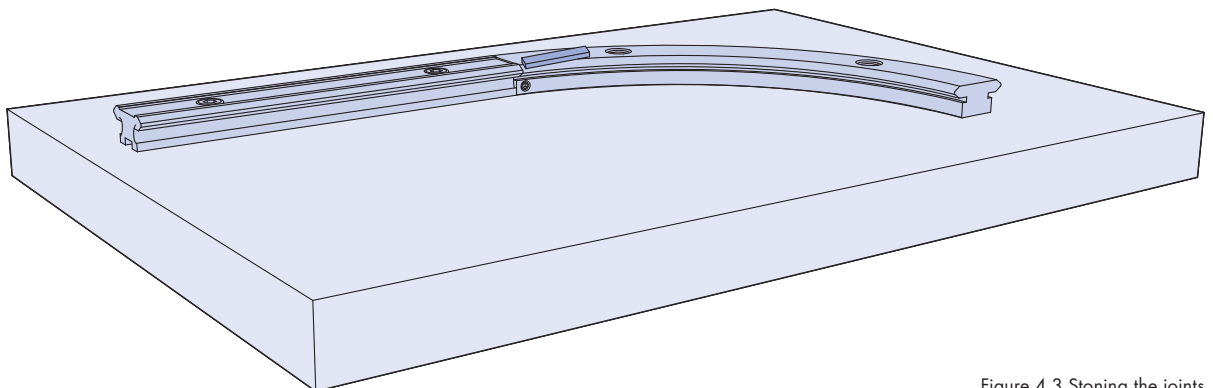

Figure 4.3 Stoning the joints
4.3 Once in position, a light stoning, using a lubricated oilstone may be required (figure 4.3). This will take off a minimum of material to produce a blended surface between the track and the segment. The joint can then be tested with a carriage to confirm the required quality has been obtained.